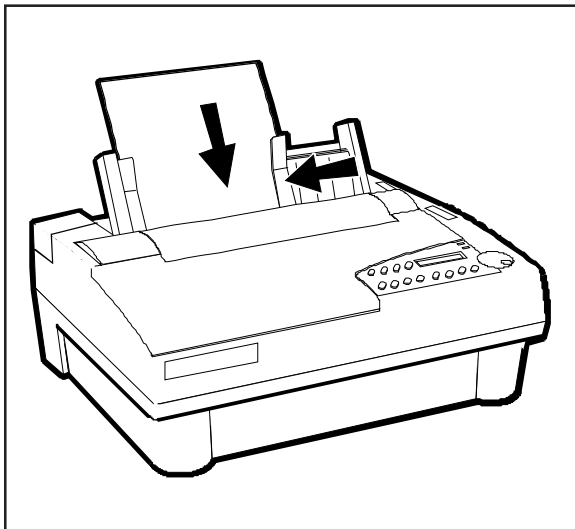

Figure 3-4. Loading a Single Sheet
4. Set a single sheet into the left paper edge guide. Then, squeeze the rear clip on the right paper edge guide and position the guide up against the right edge of the paper, as shown in figure 3-4.